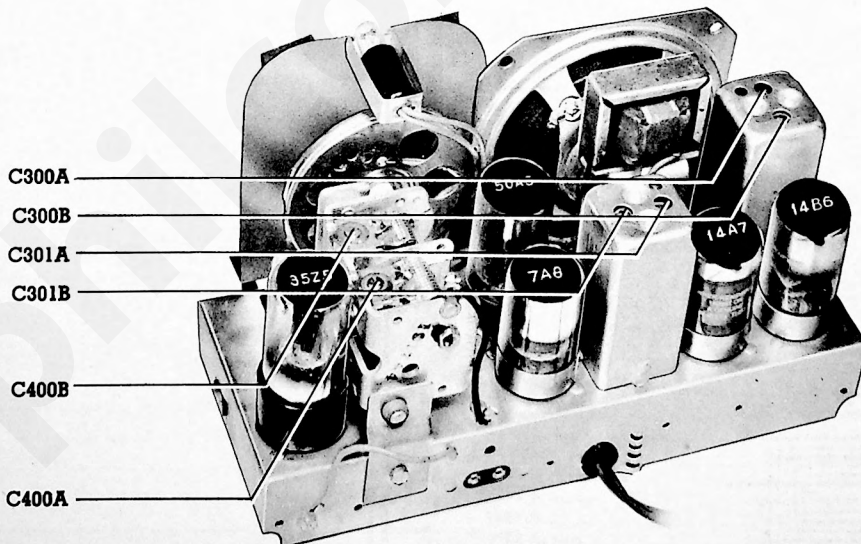

FIGURE 3. TOP VIEW, SHOWING TRIMMER LOCATIONS
**OUTPUT METER** — Connect to left (output) lug and center (chassis) lug of terminal panel, shown in figure 3.